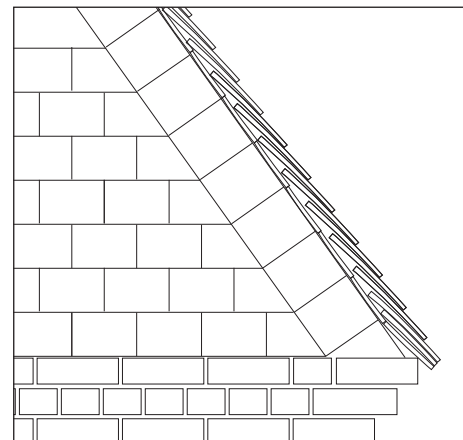

Fig. 27 – Fixing tiles to raked batten
- 3 Fix edge tile close to undercloak/soffit, securing by spot bedding and double nailing into raking batten (Fig. 27).